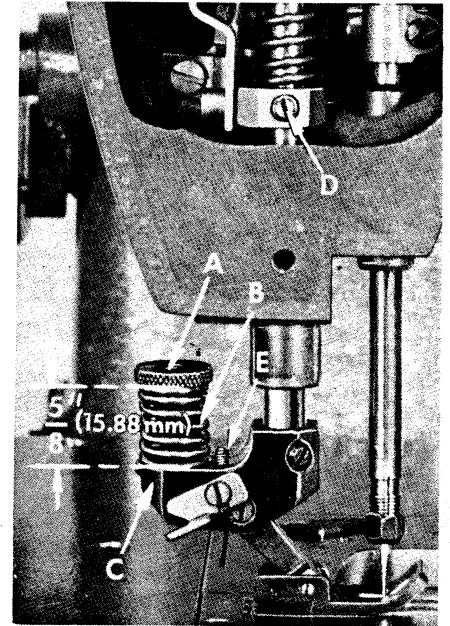

Fig. 17
As a preliminary setting, adjust spring regulator nut (A, Fig. 17) on feeding presser foot so the distance from the top of spring (B) to the yoke (C) is 5/8 inch (15.9mm), (See Fig. 17). Assemble the feeding presser foot to presser bar. With presser foot resting on throat plate and feed dog down, press down on spring regulator nut (A, Fig. 17) until the marks on presser foot bottom line up with the centerline of needle, while keeping the needle in the center of needle slot, tighten set screw (D) securing presser bar guide to the presser bar, making sure stop screw in presser bar guide is resting on the bed casting.
When the presser foot is lifted off the bare throat plate, the foot should move back only slightly, less than 1/64 inch (.4mm). The stop screw (E, Fig. 17) on the yoke, which is set at the factory, can be readjusted if necessary, should this dimension become changed.